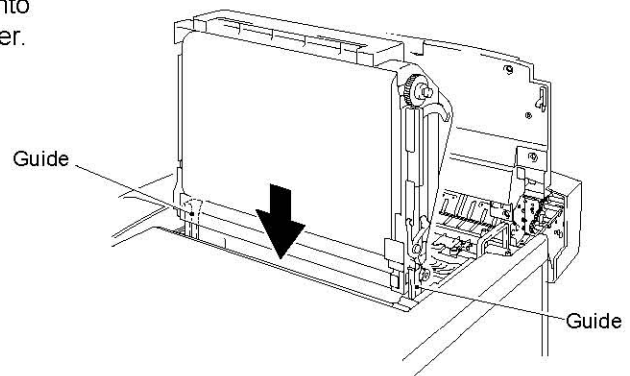

Fig. 6-14
- (1) After turning off the printer, unplug the power cable from the power outlet.
- (2) Open the top cover.
- (3) Remove the two screws securing the fusing unit. (Fig.6-14)